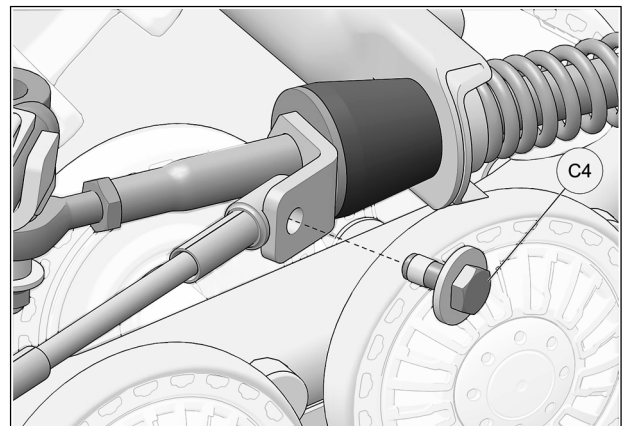

Fig. 24
18. Reverse handlebars a little to be able to bolt support plate and cable together. Tighten provided bolt (C4) to 35 N•m [24 lb•ft]. See Fig. 24. Repeat steps on right side.